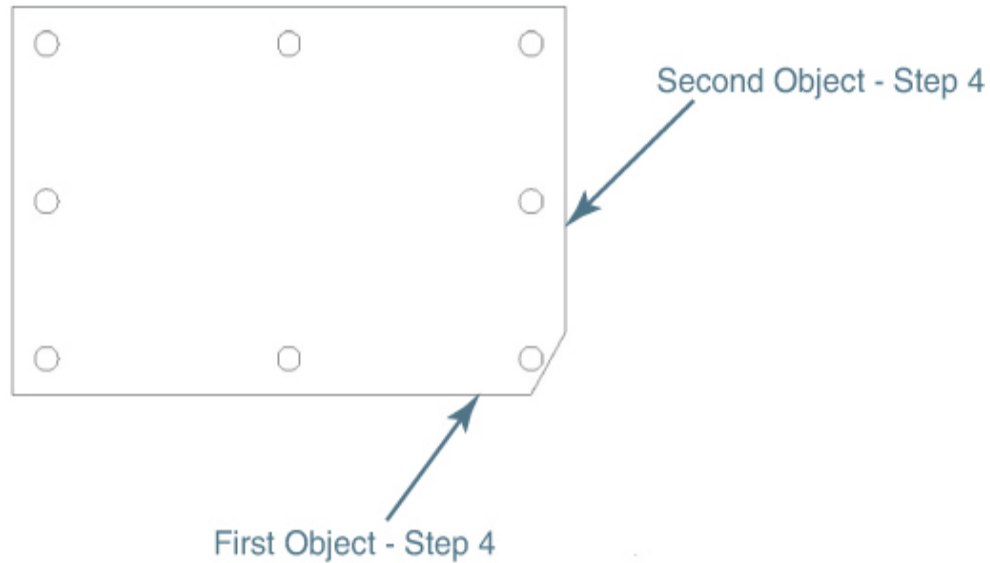

Figure 8-35
- 4** AutoCAD prompts you to *Select first line or ↓*. Pick the objects shown in Figure 8-35. AutoCAD chamfers the